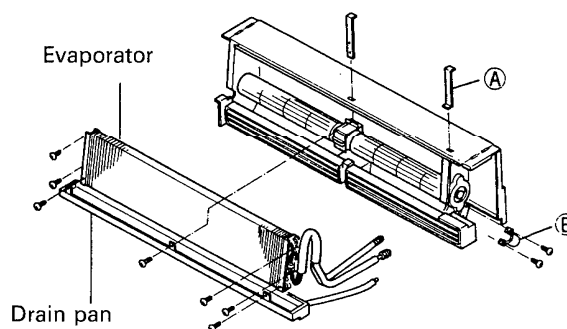

Fig. 4
- 4) Remove the two mounting metals (A).
- 5) Remove the refrigerant tubing holder (B).
- 6) The evaporator and drain pan can be pulled out after removing the screws. Fig. 4